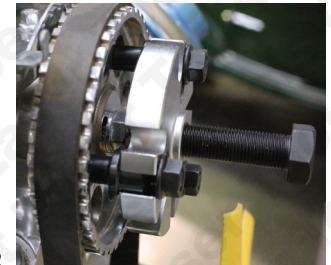

Fig. 2
4. Assemble the puller on the pulley as shown in Fig. 2
6. Ensure the ball end of the force screw is pushing on a flat surface, if the pulley shaft has a central hole then loosely refit the centre fixing bolt to ensure the force screw is pushing on a flat surface as shown in Fig. 2.